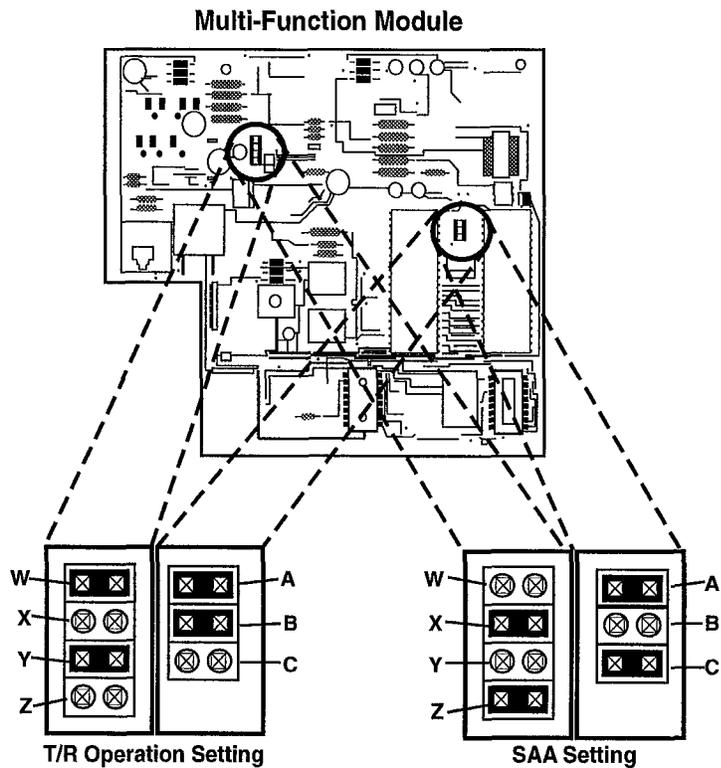

Figure 3-48. Adjusting the MFM Jumper Settings
5. As needed, adjust the jumper settings for T/R operation or for a supplemental alert device (see Figure 3-48).